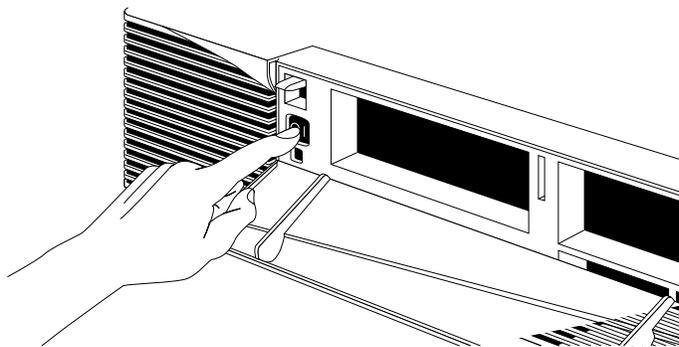

Figure 5-2 Turning off the System Power
2. Press and release the power switch, as shown in Figure 5-2. The system will power off systematically within the next minute.